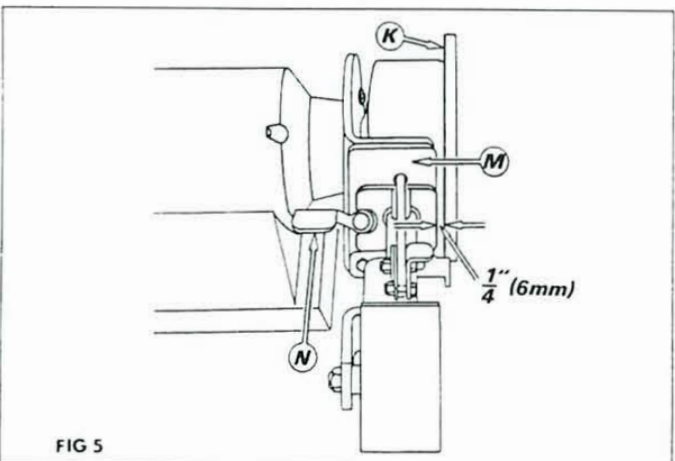

FIG 5
It is not necessary to remove platen as in Figs 5 & 6. This is removed for clarity of instruction only.
Always ensure belt entirely covers rubber contact wheel. Adjustment is made when running or when belt rotated by hand. To adjust left, move tracking lever down. To adjust right, move lever up. If tracking lever is constantly set in up or down position refer to Figs 5 & 6(N) of fitting instructions on reverse side.